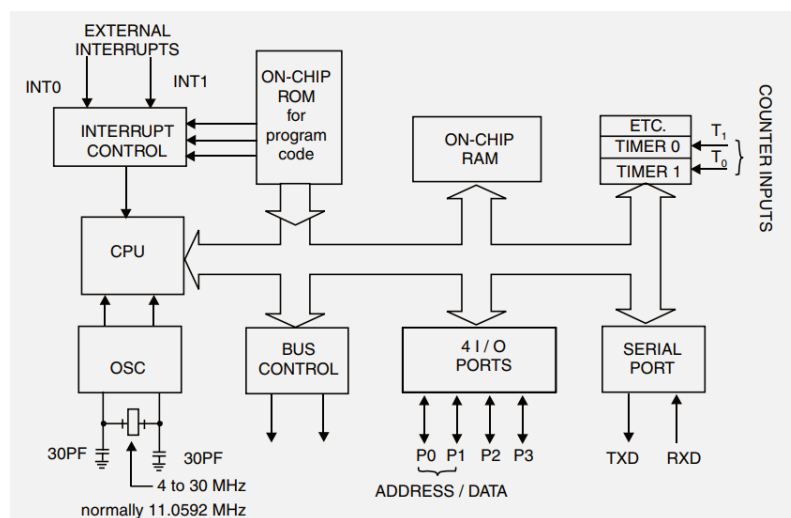

Figure 1: 8051 Architecture
Introduction: Microcontroller (MC) is called computer on chip since it includes microprocessor with internal ROM, RAM, parallel and serial ports within single chip. MC is broadly used in washing machines, vcd player, microwave oven, robotics and etc. 8051 is an 8 bit microcontroller, means 8 bit data bus, means able to read, write and process 8 bit data. Architecture of 8051 is presented in figure 1. 8051 executes code from an embedded masked ROM.